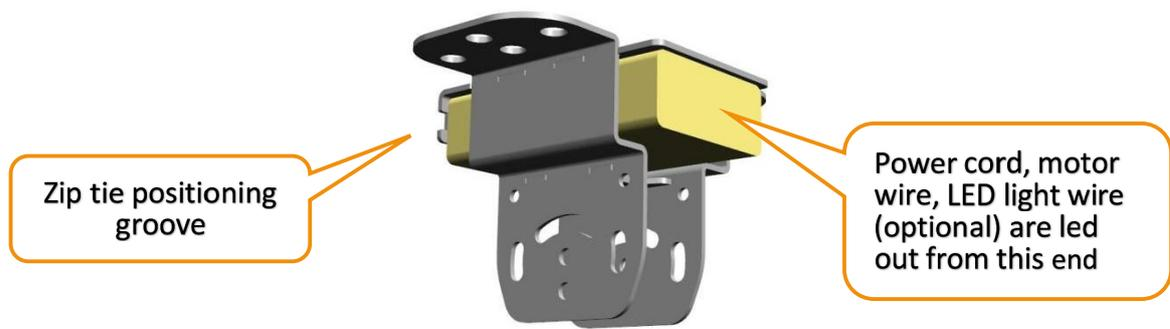

Figure. 2
① Insert the controller into the hollow frame of the upper mount. The power cord, motor wire, and LED light wire (optional) of the controller are led out from the end shown in Figure 2
② Wrap the controller and wires with the upper mount together with zip tie to prevent the controller from loosening. The tie should be stuck in the positioning groove of the upper mount